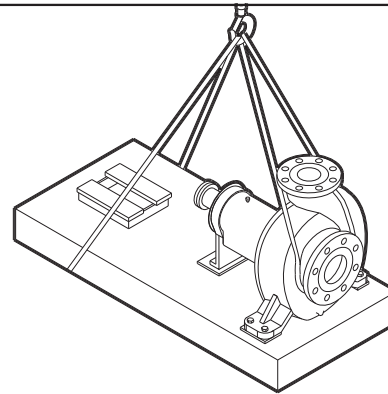
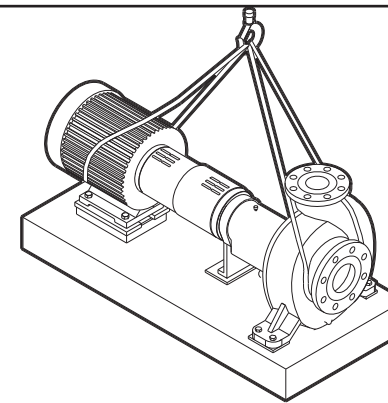

Fig. 5
Fig. 6
**Refer to the Installation section of this manual for detailed instructions for lifting a Polyshield® ANSI Combo with installed equipment. Never lift a Polyshield® ANSI Combo with pump and motor mounted using the procedure shown in Fig. 5 and Fig. 6.**